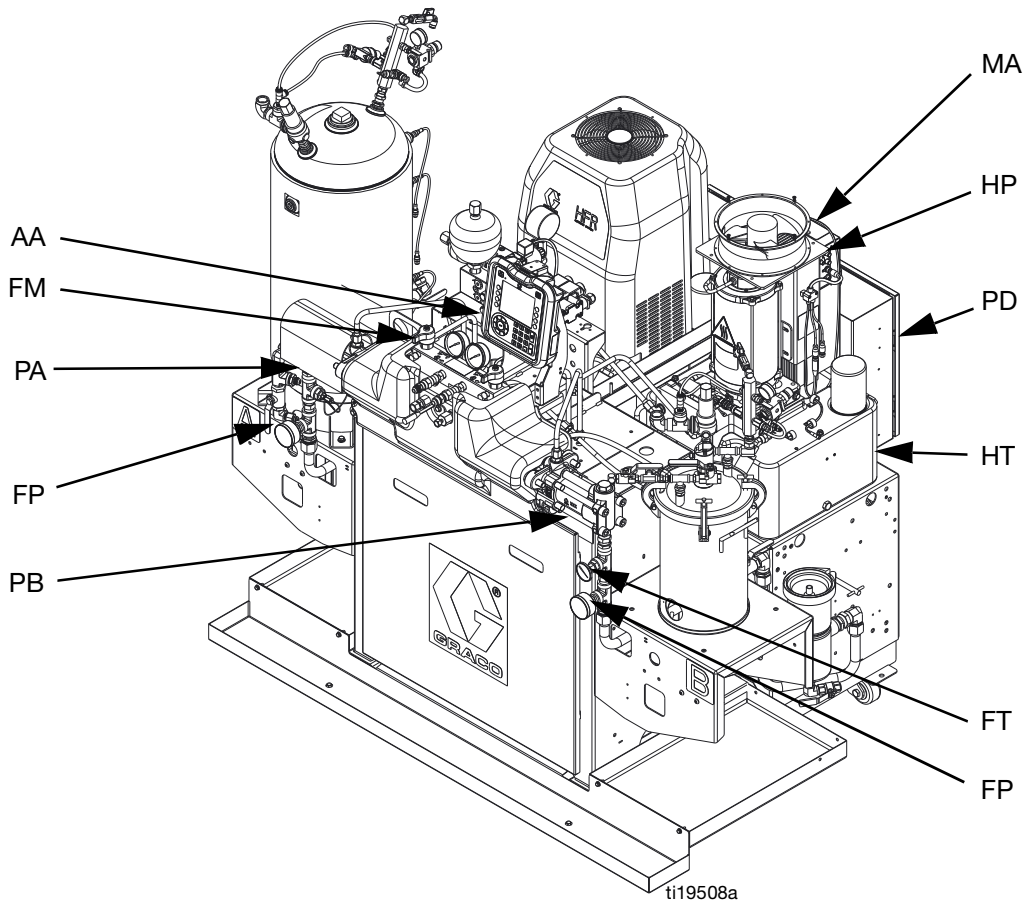

FIG. 2: Component Identification, Heated Model shown with shrouds removed
Key for FIG. 2 and FIG. 3.
For MCM location, see reference MA in FIG. 2 on page 14. When installed, the end of the MCM with the power input connection (12) faces down and the end with the access cover (A) faces up.